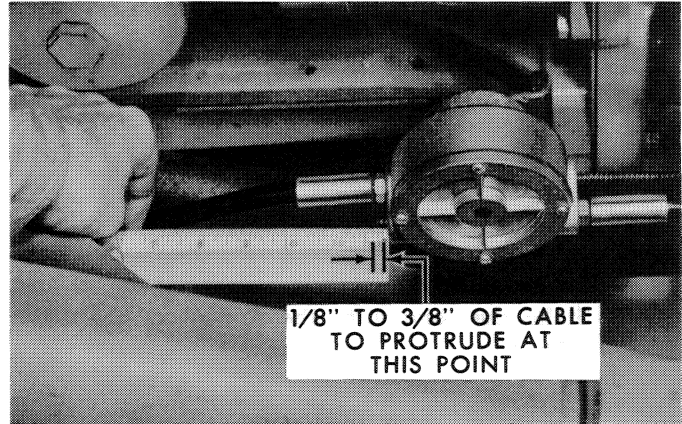

Figure 25—Adjusting the Upper Cable Extension
4. Be sure the parking brakes are set and locked; be sure the tractor is out of gear, then start the engine. Grasp the upper end of the upper actuating cable and slowly pull the cable as far out as possible. This will turn the tractor wheels to a full right turn position. Keep pull pressure on the cable and with a rule, measure the distance the cable extends from the face of the wheel housing, as shown in Figure 25. The cable should extend between $\frac{1}{8}$ " and $\frac{3}{8}$ ". If not within these limits, thread the cable either in or out as required, by turning it right or left. Stop the engine and install the upper conduit extension.